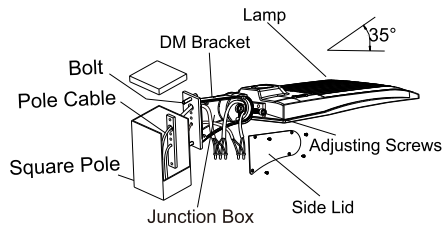

Figure 3
Step 1: Fix DM bracket to square pole with bolt, open the side lid of DM bracket, pull the wire into junction box, and connect the wire correctly. (Figure 3)
Notice: Adjustable angle is 0-35° (Figure 3).